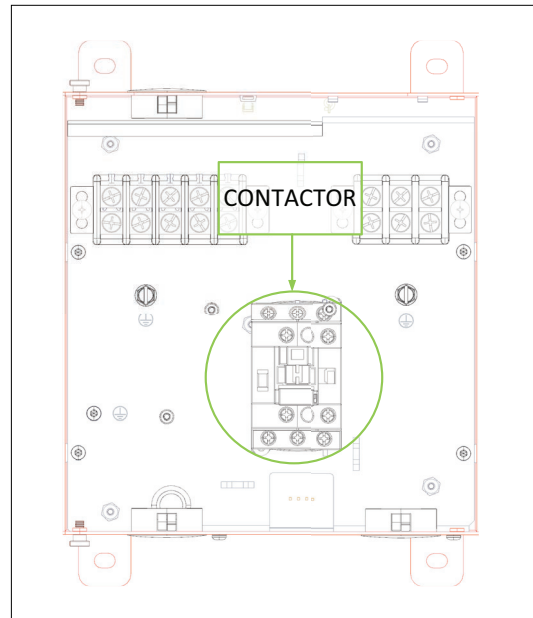

Figure 2. Removing Contactor
- Disconnect all 10 wires connected to the contactor using a #2 Phillips driver (see Figure 2).